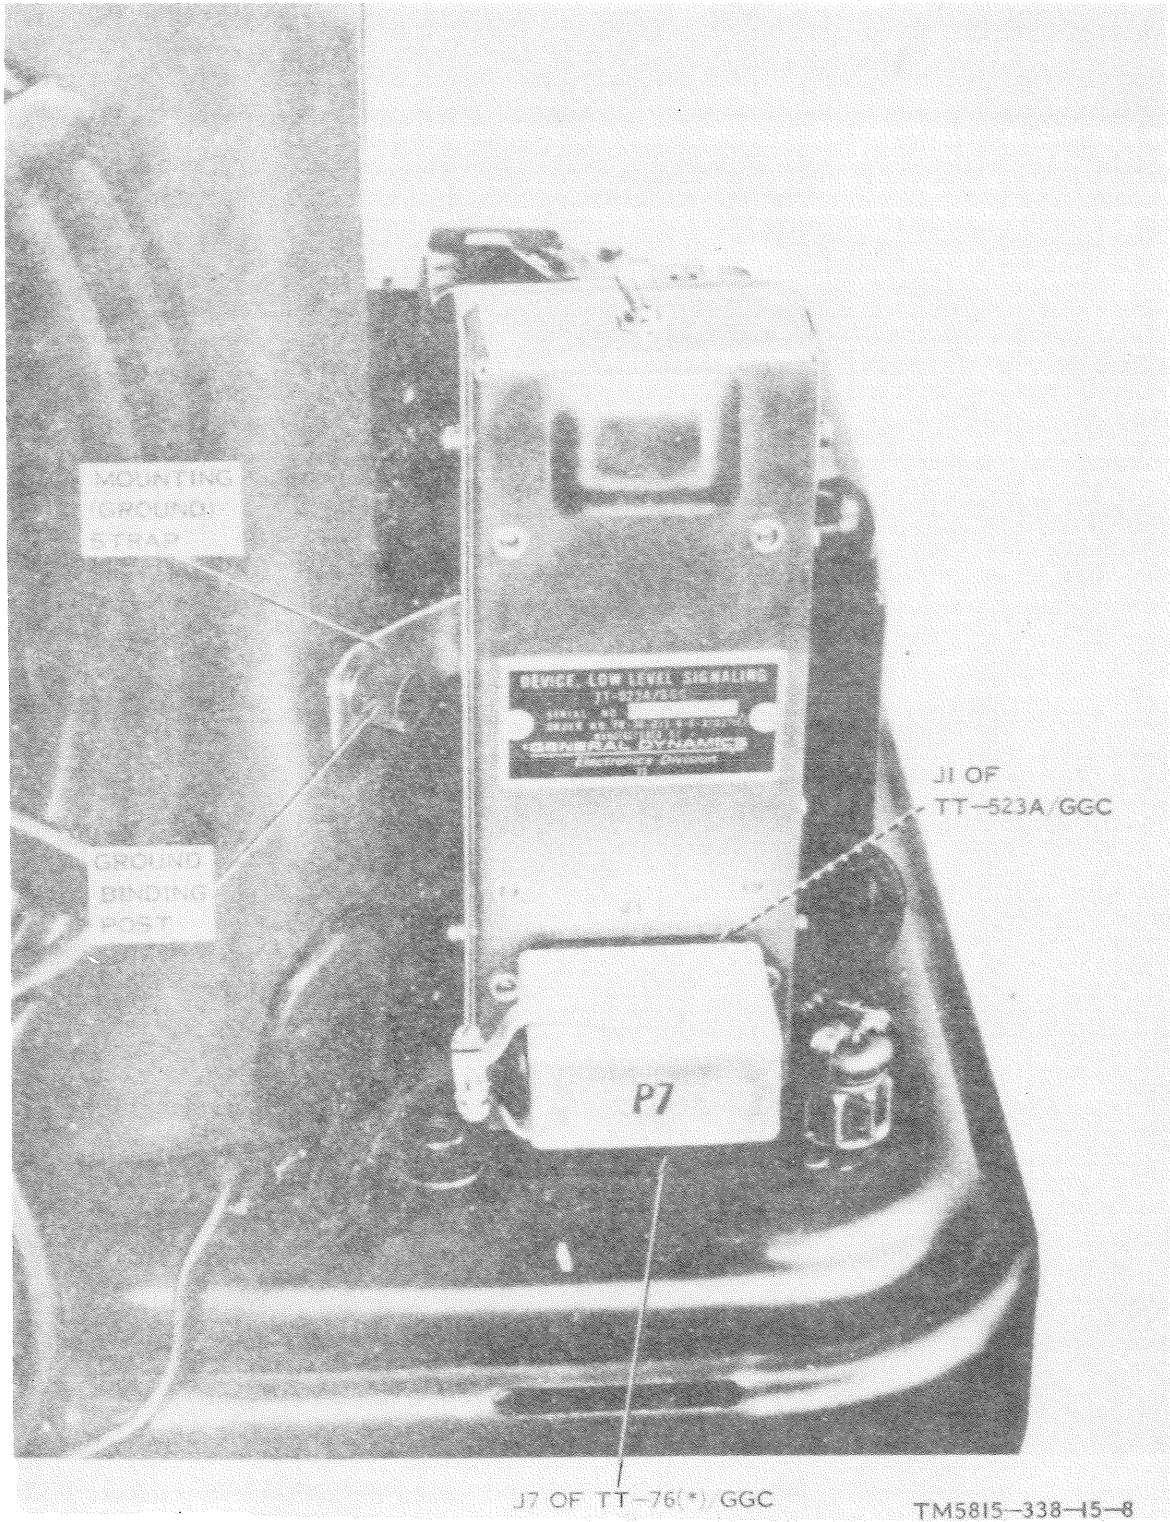

Figure 2-2. TT-523A/GCC mounted on TT-76(*)/GCC.
b. Remove plug P7 (fig. 2-2) from its associated receptacle J7, located at the rear of the TT-76(*)/GGC.